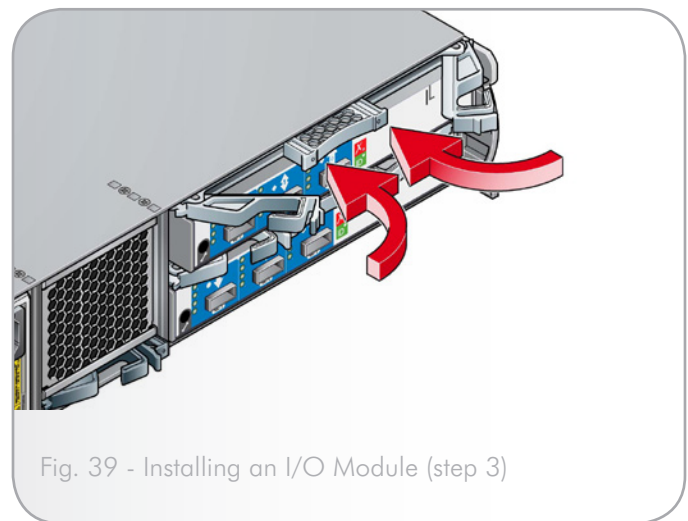

Fig. 39 - Installing an I/O Module (step 3)
3. Cam the module home by manually closing the latches (see Fig. 39).